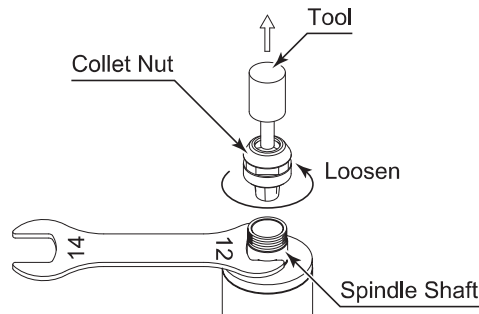

Fig. 4
- ① Remove the tool according to the section "7. CHANGING THE TOOL " procedure above and remove collet nut assembly (Fig. 4).